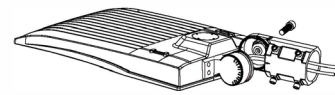

Figure 1
Step 1. Remove the bracket mounting screws on the fixture and run the wires through the bracket (Figure 1)